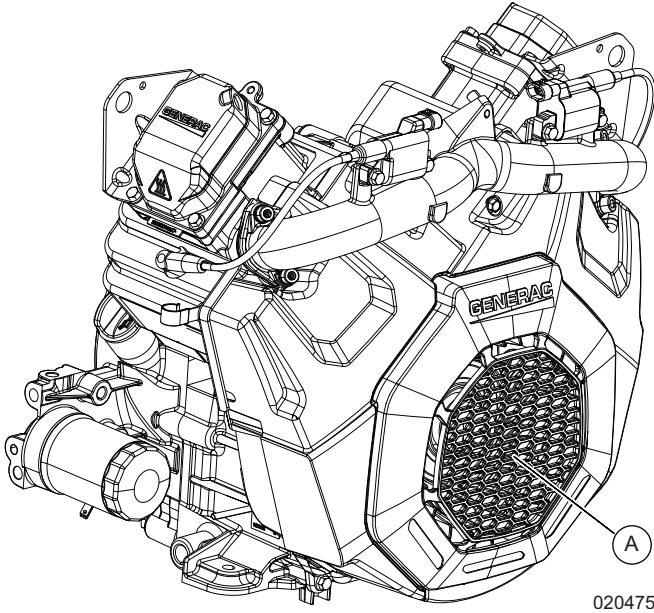

Figure 4-4. Intake Screen and Oil Cooler Fins
See Figure 4-4. Continued operation with a clogged cooling system can cause severe overheating and possible engine damage. Inspect and clean the intake screen (A) during routine and periodic maintenance.